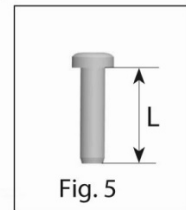
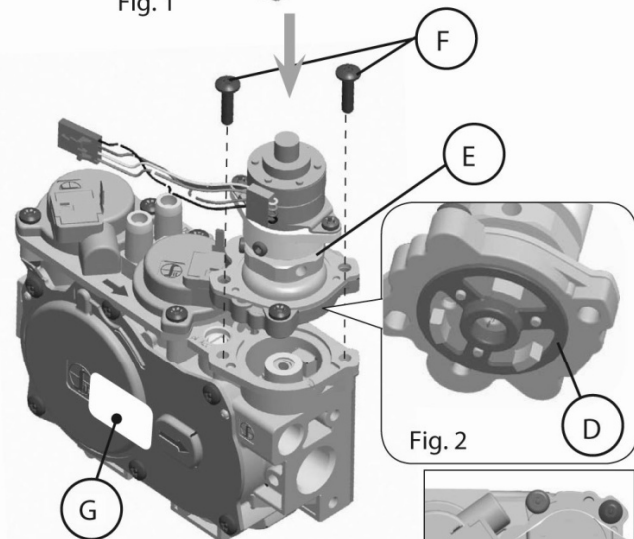
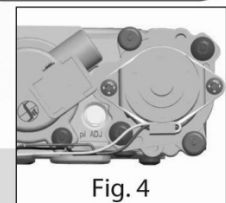

Fig. 5
Fig. 3
Fig. 4
- 4 Install the new STEPPER MOTOR pressure regulator assembly, as shown in Fig. 3 and Fig. 4. Use the supplied screws (F), M4 x 0.7 threaded, length of thread  $L=(16\text{ mm} + 0 - 0.5\text{ mm})$ , steel material, resistance class 8.8 (see Fig. 5).